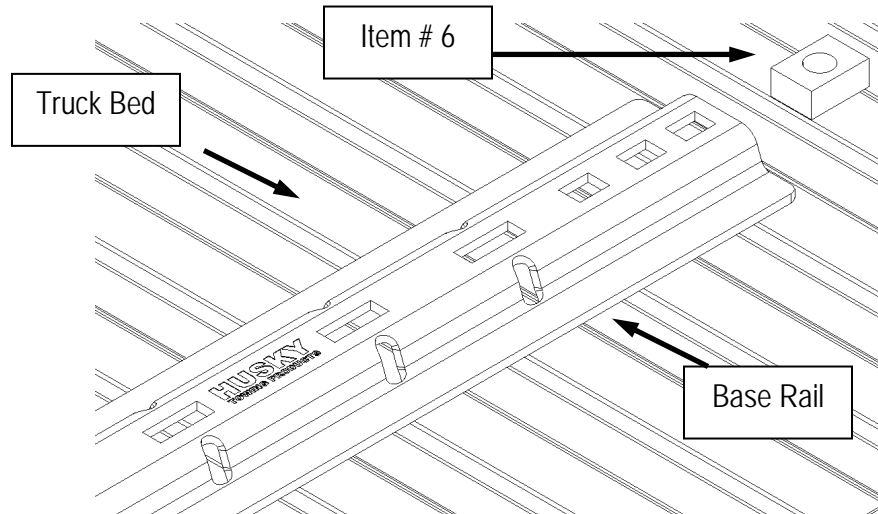

Figure 3
3. Reposition the bed rails in the bed so that the square 5/8" hole in the end of each rail is lined up over the drilled holes. Place a 3/4" thick spacer block (#6) under ends of each bed rail, in line with the drilled holes as shown on Figure 3.